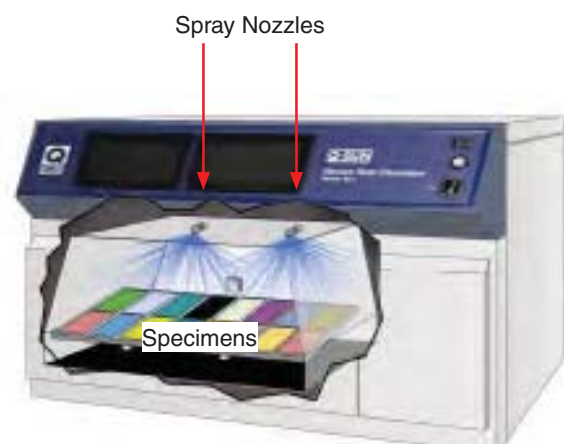

Figure 7b: Cut-away drawing showing spray nozzle location in test chamber.
- Located in test chamber (Figure 7b)